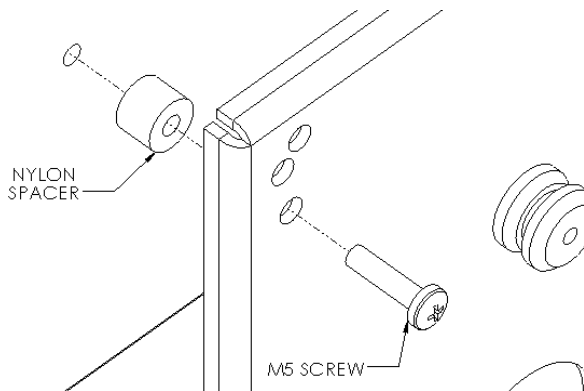
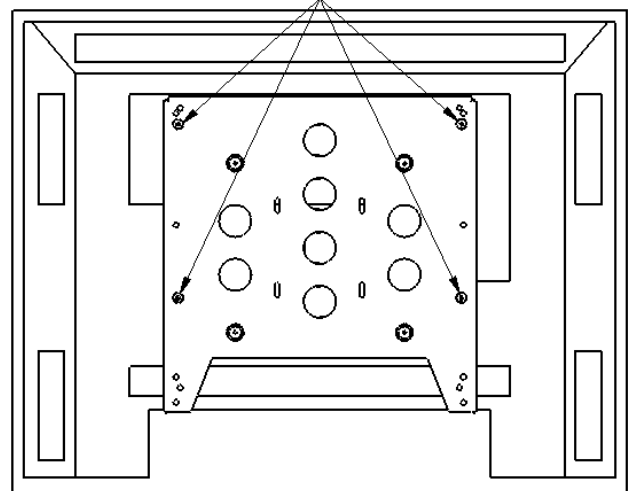

Figure 6
Figure 7
- Attach bracket to back of display using the M5 screws and nylon spacers (see Figure 6 and Figure 7). Do not over-tighten screws.